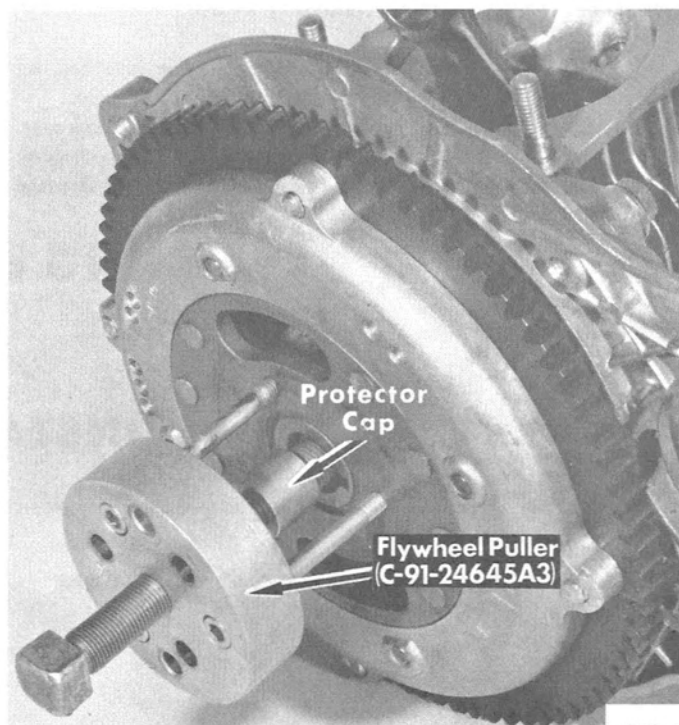

Figure 5. Flywheel Removal
3. Install Flywheel Puller (C-91-24695A3) on flywheel with three 2½" x 6mm cap screws (C-10-58174). (Figure 5)